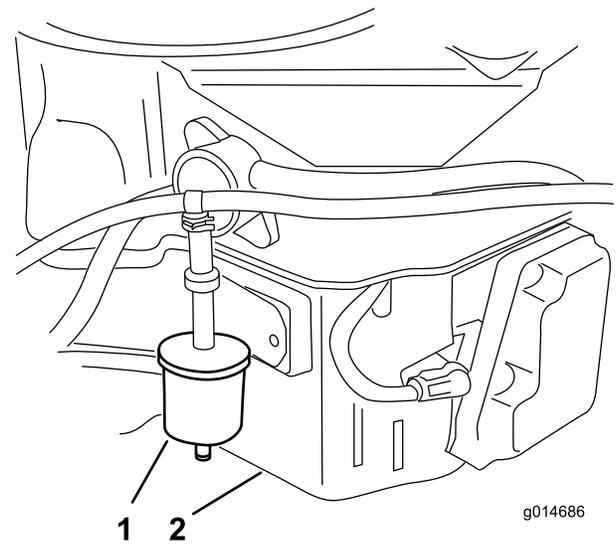

Figure 33
3. Remove the existing fuel vent filter (Figure 33).